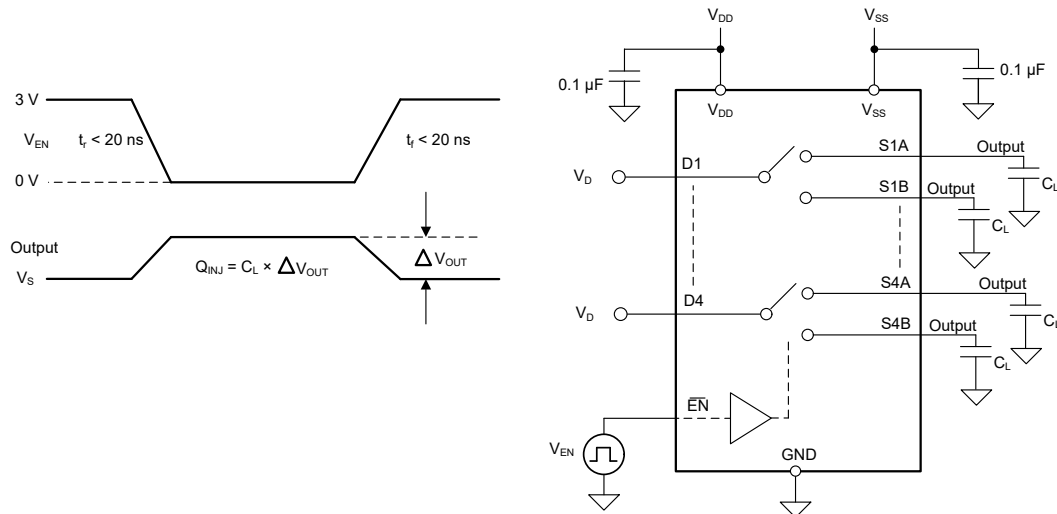

Figure 6-9. Charge-Injection Measurement Setup
The TMUX6234 has a transmission-gate topology. Any mismatch in capacitance between the NMOS and PMOS transistors results in a charge injected into the drain or source during the falling or rising edge of the gate signal. The amount of charge injected into the source or drain of the device is known as charge injection, and is denoted by the symbol Q_{INJ} . Figure 6-9 shows the setup used to measure charge injection from source (Sx) to drain (D).